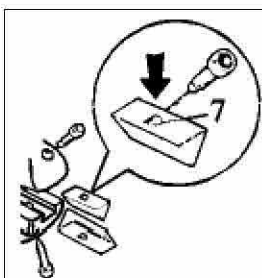

Fig. 12
8. Assembly by inserting the blades as indicated in fig. 12: the short blade in the seat of the upper mobile head with the short screw, the long blade in the seat of the lower fixed head with the long screw;
Attention: position the notch (7) as indicated in fig. 12, mount the blade with the help of a copper or aluminum hammer.